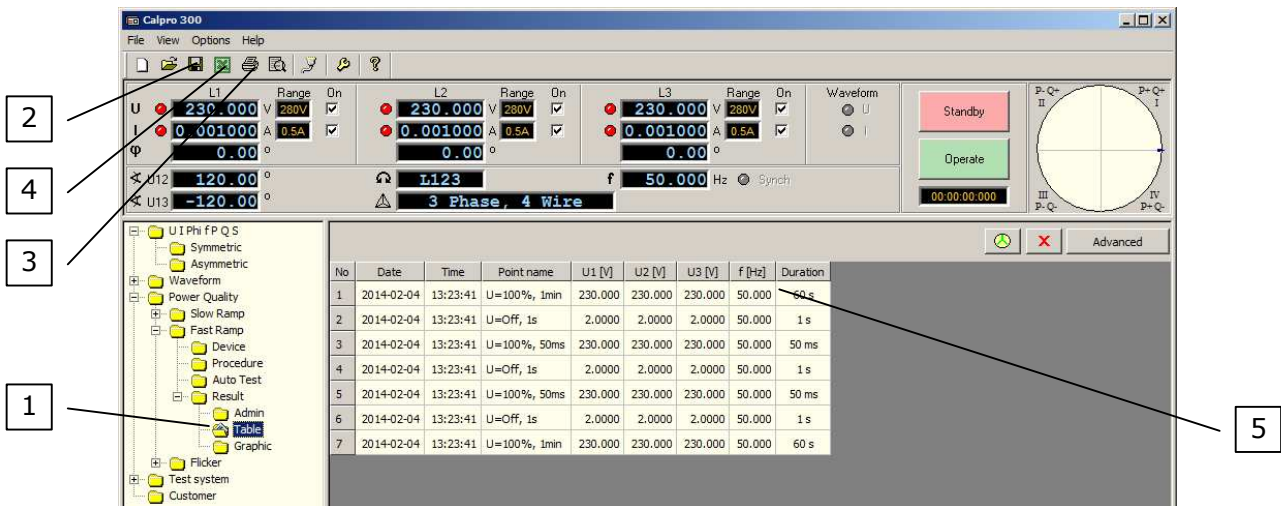
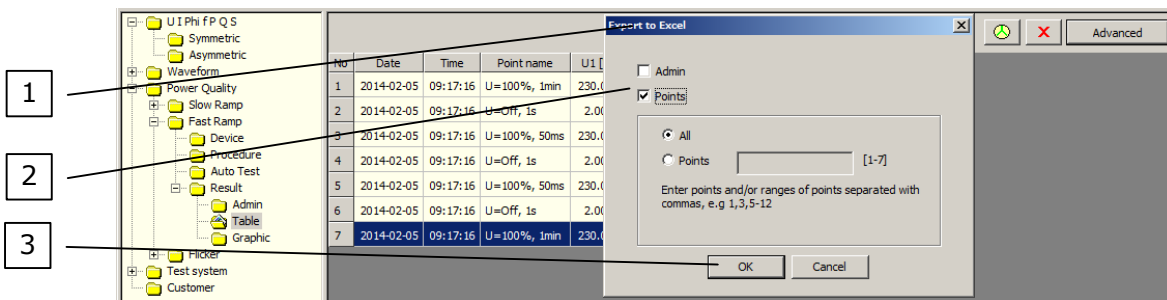
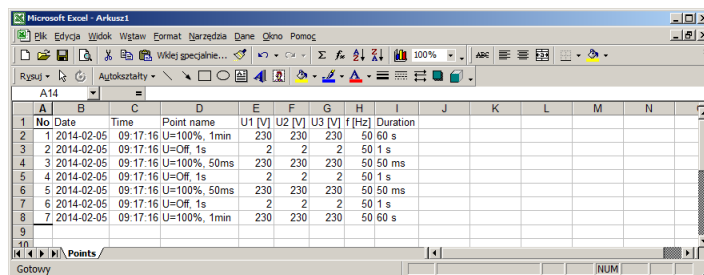

Fig.1.7. Table function with parameters of measurement points
Fig.1.8. Table function with *Export to Excel* window
Fig.1.9. MS Excel program with exported parameters of measurement points
To view a table with parameters of measurement points (Fig.1.7) the user have to press the *Table* of the *Power Quality / Fast Ramp / Result* function (pos.1). After that the user can save to the file (pos.2), print (pos.3) or export to the *MS Excel* test parameters (pos.4).
To export data to *MS Excel* program the user have to press the *Export to Excel* button (pos.4 Fig.1.7). After that appear *Export to Excel* window (pos.1 Fig.1.8) with fields to set the parameters of a data to export (pos.2 Fig.1.8). When the user confirm changes by the *OK* button (pos.3 Fig.1.8) then a *MS Excel* program run with exported test parameters (Fig.1.9).